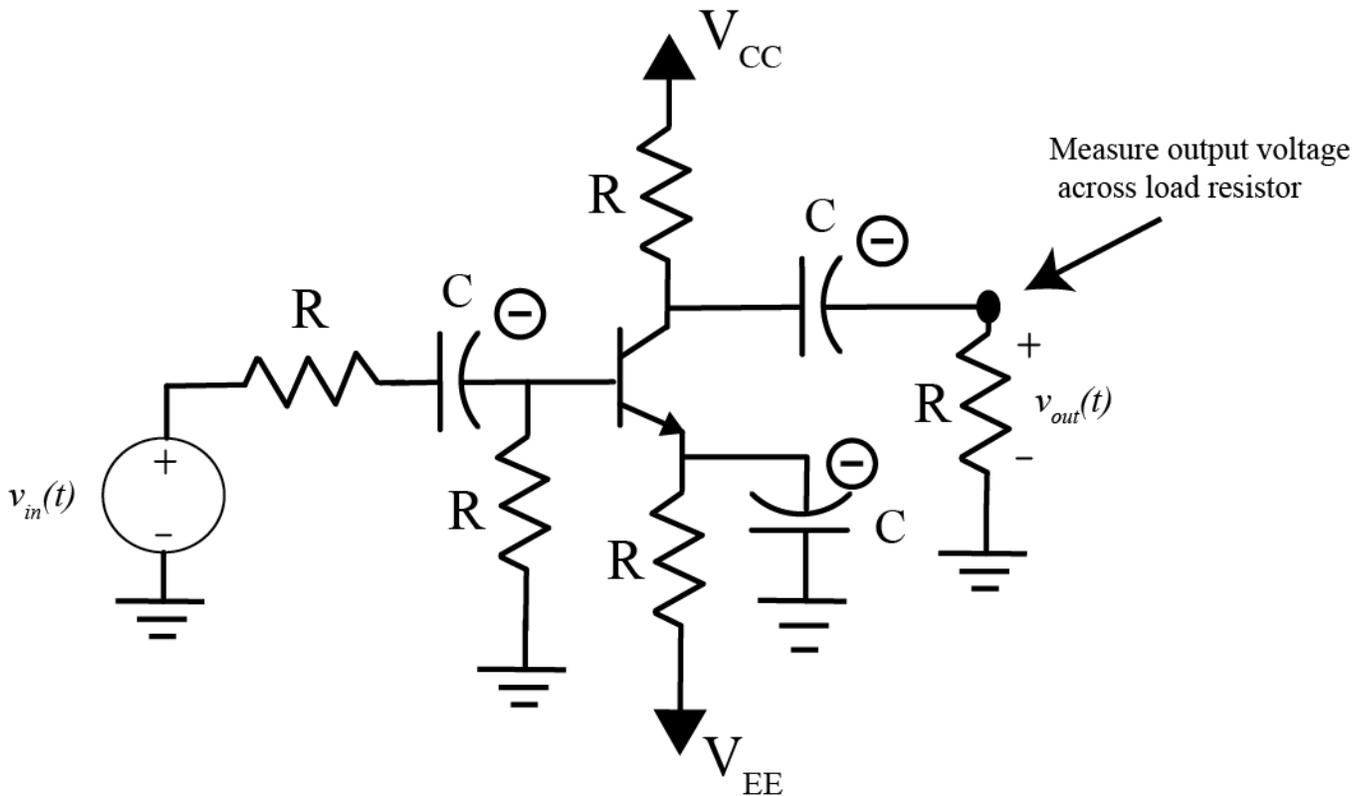

Figure 6. Final circuit. The input is AWG2 and the output is the voltage across the load resistor.
- 4) Turn the power off and finish building the circuit as shown in Figure 6. Note that the polarity of all of the capacitors, and that everything we are now connecting is connected to ground (not one of the voltage sources). The input signal will be the signal coming from AWG2. We will be measuring our output as the voltage across the load resistor..